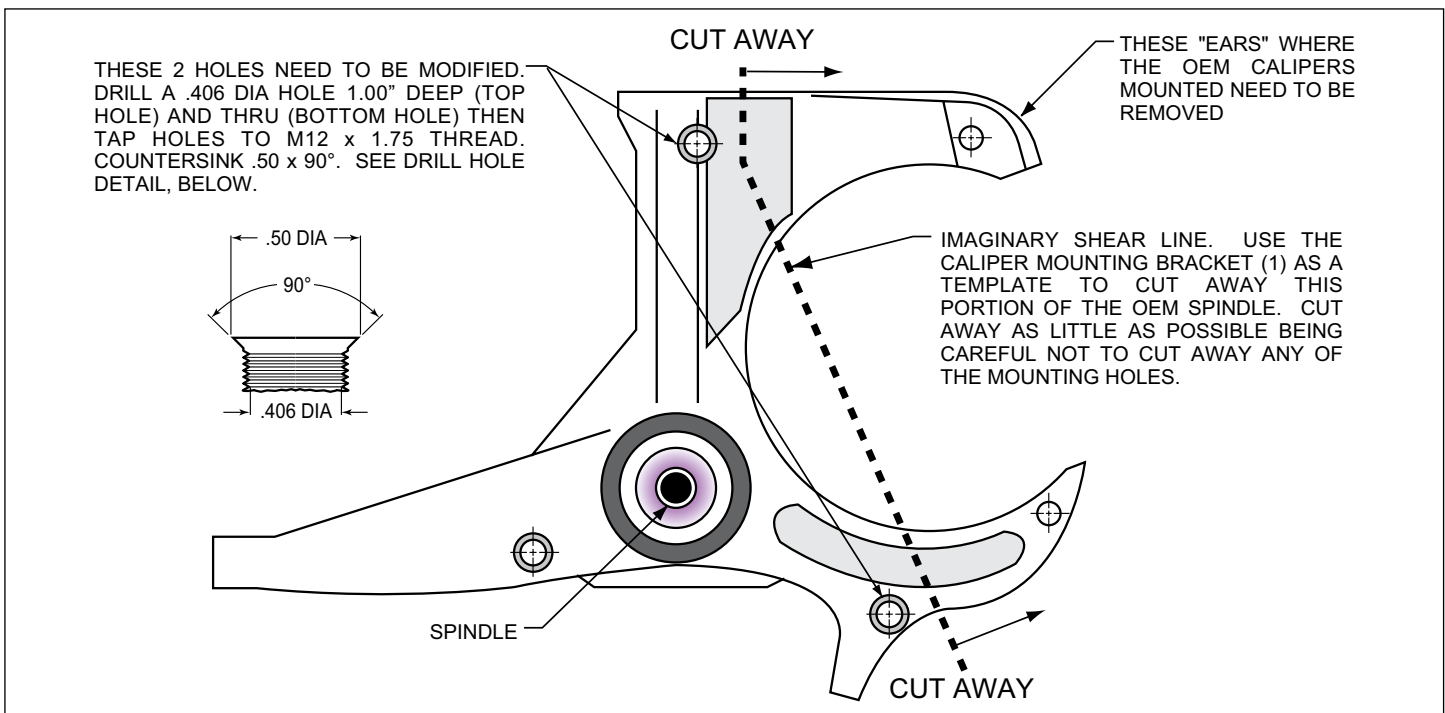
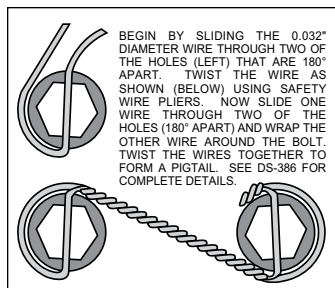

Figure 1. Steering Arm / Spindle Modifications
Figure 4. Safety Wire Diagram
**NOTE:** These modifications should be performed by a qualified machinist and completed before assembly of the Wilwood disc brake kit begins. Refer to Figure 1. Only one view of the steering arm/spindle is shown, but the modifications need to be performed on both steering arm/spindles.
The two OEM holes that will be used to mount the caliper mounting bracket (1) need to be modified. Drill a .406 diameter hole, 1.00" deep (top hole), and thru (bottom hole), Figure 1, then tap holes to M12 x 1.75 thread. Countersink the holes to .50 x 90°. The "ears" that protrude to form a "C" shape need to be removed to facilitate the installation of the Wilwood kit. Using the bracket as a template, mark two cut marks on the steering arm. Remove as little as necessary from the "C" shape, being careful not to cut away any of the mounting holes required to bolt on the bracket.
- Orient the rotor (9) and the hat (10) as shown in Figure 1 and Photo 4. Attach rotor to hat using bolts (11) and washers (12). Apply red *Loctite*® 271 to the bolt threads and torque to 155 **in-lb** using a criss-cross pattern. For an added measure of security, the bolts may be safety wired using standard 0.032 inch diameter stainless steel safety wire as shown in Figure 4. Refer to Wilwood's data sheet DS-386 (available at [www.wilwood.com/Pdf/DataSheets/ds386.pdf](http://www.wilwood.com/Pdf/DataSheets/ds386.pdf)) for complete safety wire installation instructions.
- Slide the hat/rotor assembly (9/10) onto the hub (6) taking care to align the small countersunk holes in the hat (10) with the small threaded holes in the hub. **NOTE:** The hat must fit flush against the hub face or excessive rotor run out may result. Install three flat head screws (17) through the small holes in the hat (10), Photo 6, and torque to 85 **in-lb**.
- **NOTE:** This kit contains distinct right and left hand calipers that must be mounted in a specific direction, as described below. Initially place one spacer (23) and two .035" thick shims (22) on each stud (21) between the caliper and the bracket, as shown in Figure 1 and Photo 7. Mount the caliper (18) onto the bracket (1) using lock nuts (19) and washers (20), Figure 1. Ensure that the caliper is mounted so the largest pistons are at the rotor exit end of the caliper, in relation to the direction of rotor rotation. Temporarily tighten the lock nuts and view the rotor through the top opening of the caliper. The rotor should be centered in the caliper, Photo 8. If not, adjust by adding or subtracting shims (4) between the bracket and the upright. Always use the same amount of shims on each of the two mounting bolts. Once the caliper alignment is correct, remove the bracket mounting bolts one at a time, apply red *Loctite*® 271 to the threads, and torque to 60 ft-lb.